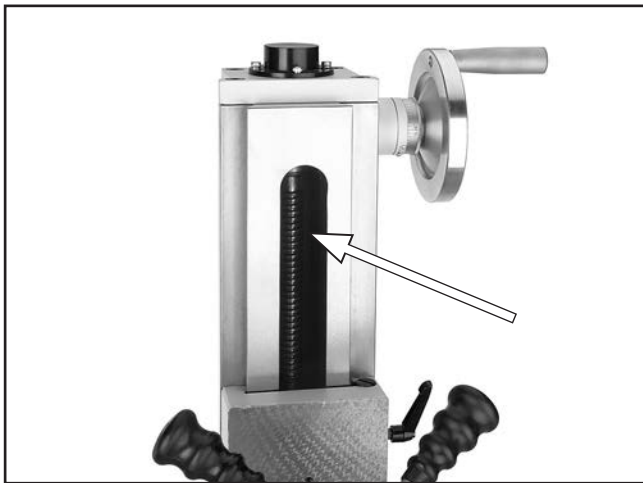

Figure 47. Vertical leadscrew location.
3. Use mineral spirits and a brush to clean as much of the existing grease and debris as possible off of the vertical leadscrew shown in **Figure 47**. Allow leadscrew to dry.